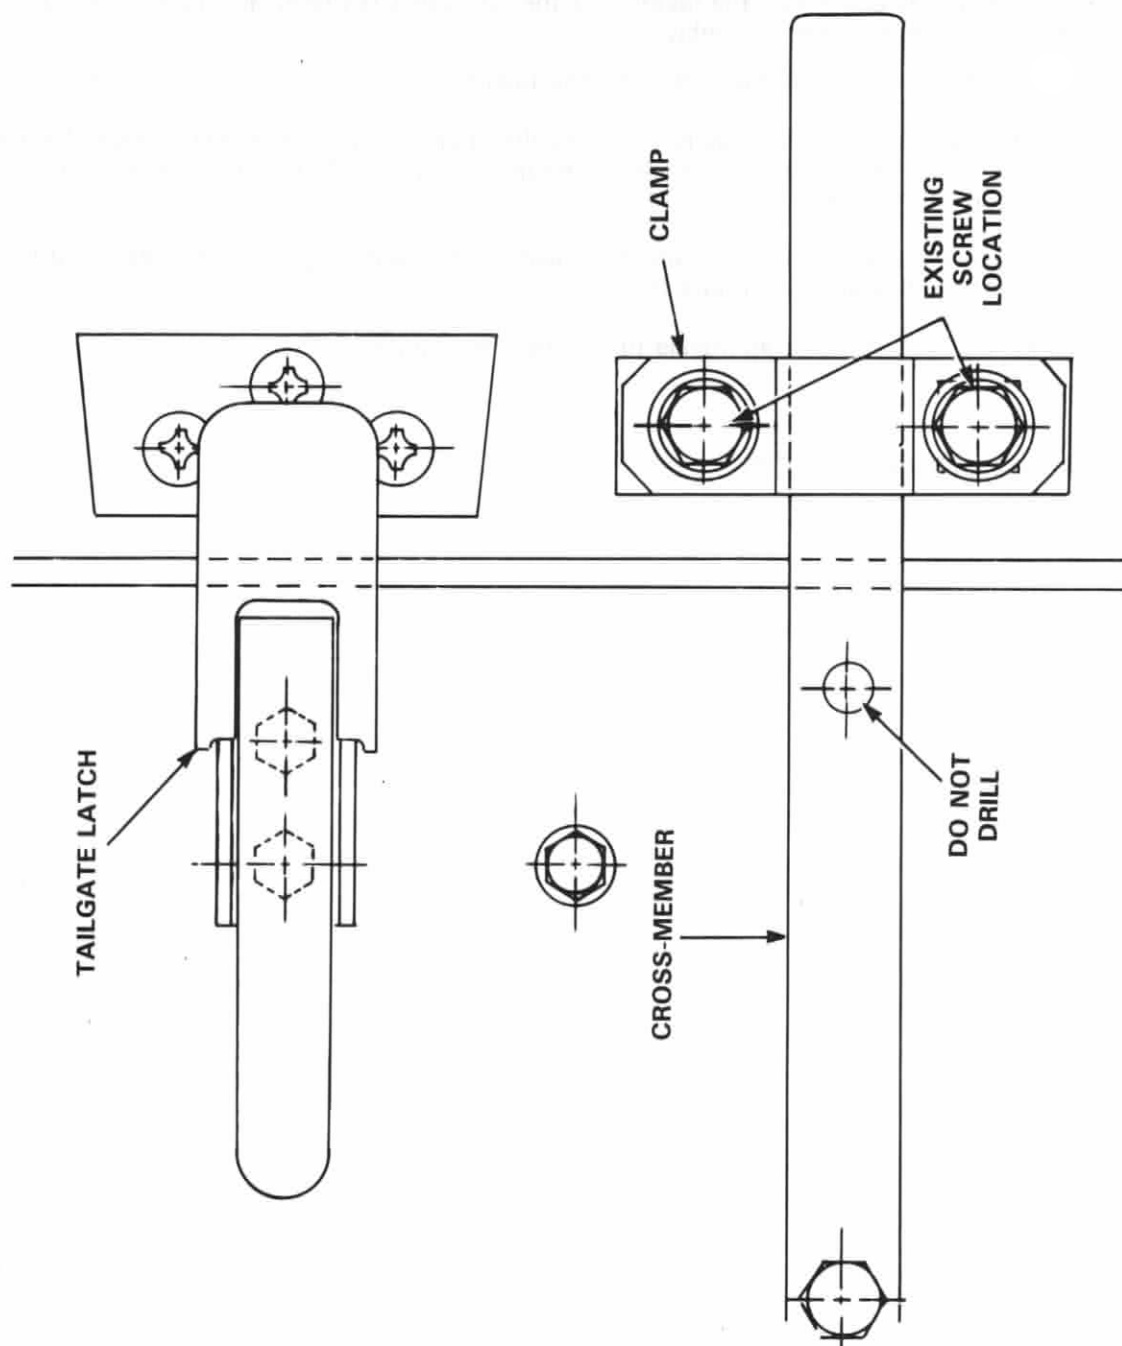

Figure 1 Location of Spare Wheel Carrier Upper Mounting Clamp
- a. See Figure 1. Remove and discard the two existing screws located directly below the vehicle right side tailgate securing latch.
- d. Install the previously removed spare wheel carrier assembly so the right arm of the carrier fits through the installed clamp (see Figure 1).
Do not drill through the fourth hole which is located near the upper mounting clamp, see Figure 1.